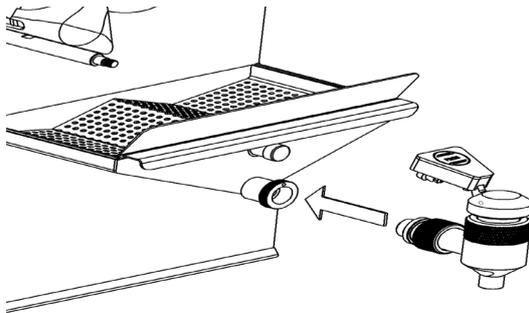

Figure 5
On the Fresh model, put the tap (63) in its place and turn it to right (clockwise) **(Figure 5)**. Before attaching the tap, make sure that the pin that is on the tap snaps into the slot exactly.